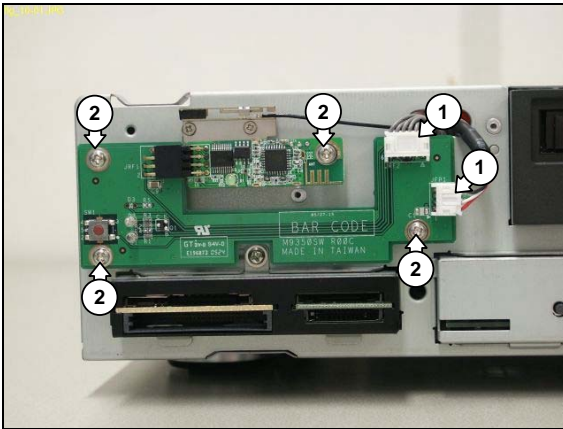

Figure 12.10-1
3. Disconnect all cables (1) from the SW board & RF receiver. See Figure 12.10-1.
4. Remove the 4 mounting screws (2) from the SW board & RF receiver. See Figure 12.10-1.